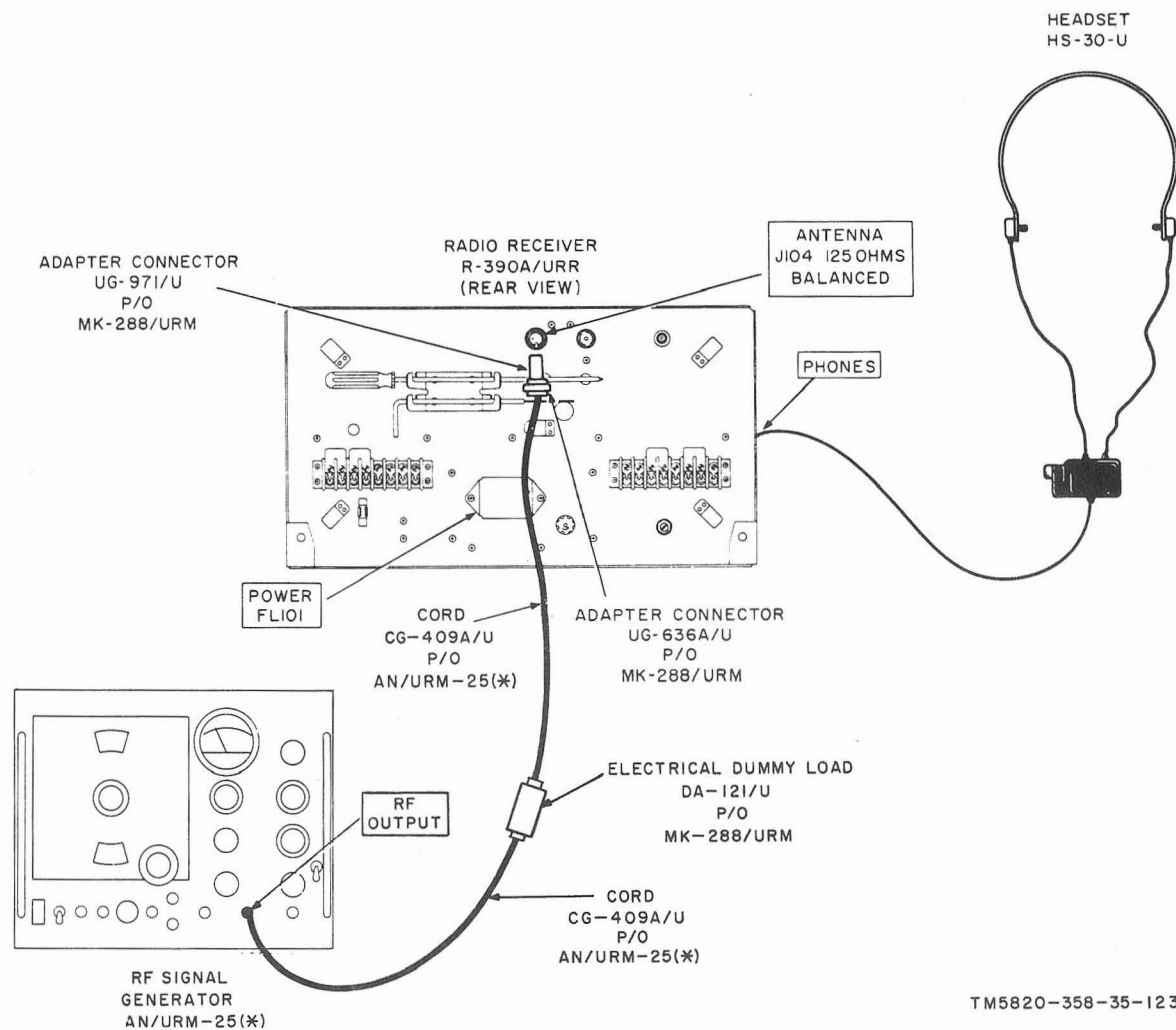

Figure 78. Line level meter and limiting test setup.
(fig. 78)
b. Test Connections and Conditions. Connect the equipment as shown in figure 78.